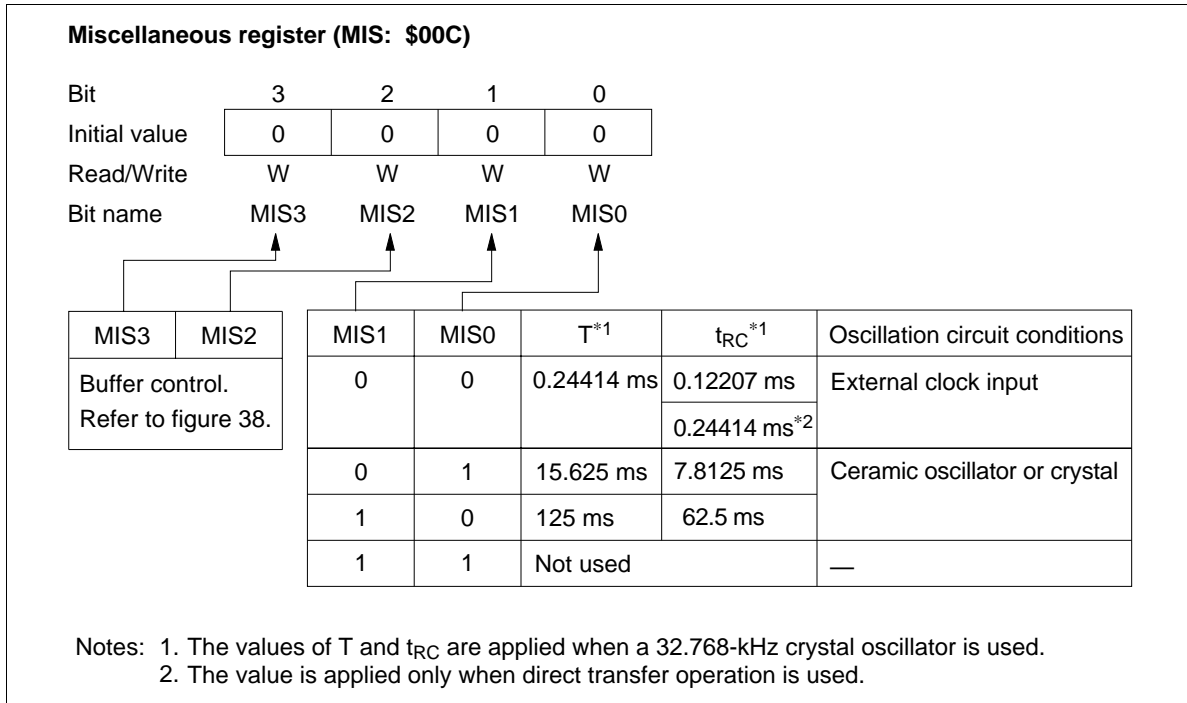

Figure 18 Miscellaneous Register (MIS)
Interrupt Frame: In watch and subactive modes, ϕ_{CLK} is applied to timer A and the $\overline{\text{INT}}_0$ circuit. Prescaler W and timer A operate as the time-base and generate the timing clock for the interrupt frame. Three interrupt frame lengths (T) can be selected by setting the miscellaneous register (MIS: \$00C) (figure 18).